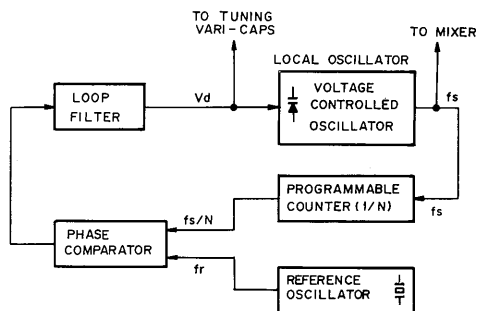

Fig. 4-1 Basic composition of the PLL synthesizer circuit
As may be noted in Fig. 4-1, the quartz PLL synthesizer consists of a voltage controlled oscillator (VCO), programmable counter, phase comparator, reference oscillator, and loop filter. With VCO frequency represented as f_s , reference frequency as f_r , and the programmable counter division ratio as N (an integer), loop value is determined by the equation $f_r = f_s/N$. In other words, when f_r is a set value, VCO frequency (f_s) depends on the division ratio (N) of the programmable counter and becomes a multiple of f_r .